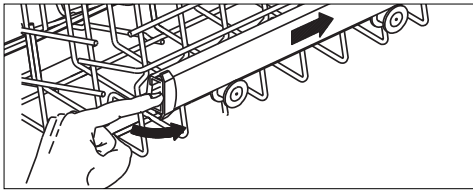
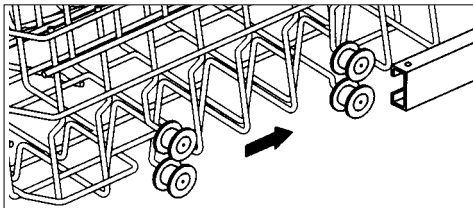

fig. 7
fig. 8
- Pull the rack all the way forwards and turn the cover caps on the left and right outwards (see fig. 7). Remove the basket. Place the other set of wheels in the rails (see fig. 8). Push the rack back into the machine and replace the cover caps.